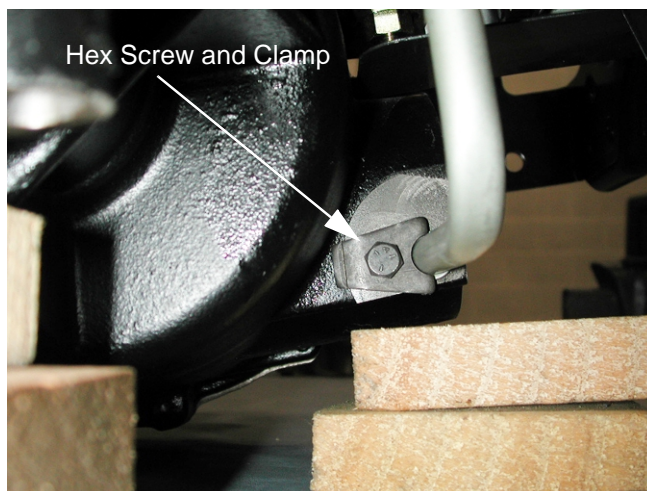

Figure 5
8. Remove the hex screw and clamp securing the hydraulic pickup tube to the transmission housing using a 7/16" socket. See Figure 5.